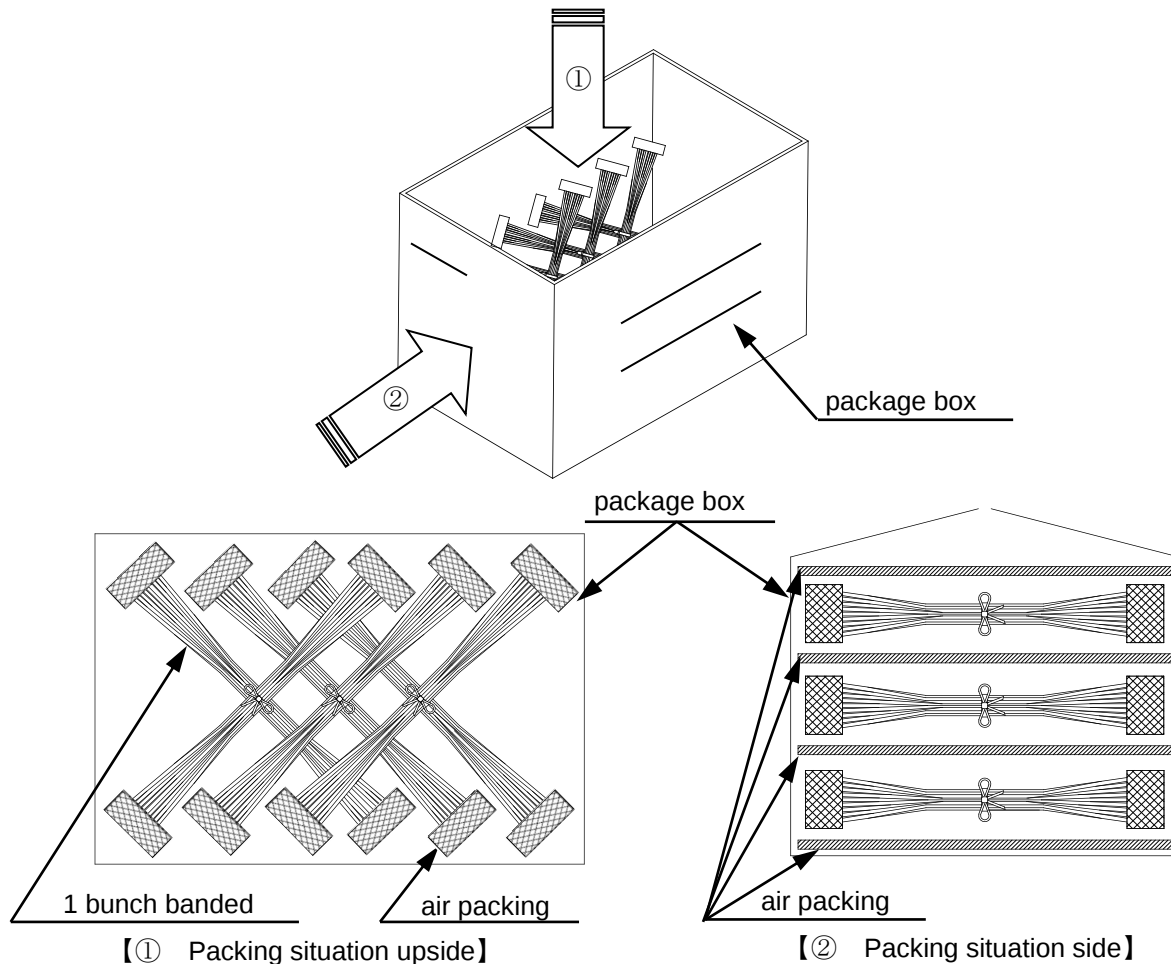

Fig.8-2 Packing situation
Below figure (**Fig 8-2**) is one of examples recommended reference. Please take measure not to add force to connector for long time by stacking if you pack with another packing method for long harness.
※When packing bundle of harness after processing in package box, please follow suggested packaging order and avoid applying excessive weight or force to harnesses. (cross shape) (**Fig.8-2 ①**)
※Please lay air packing etc. on package box underside. In order that force by piling package boxes etc. is not added to connector for long time, please lay air packing etc. (**Fig.8-2 ②**)